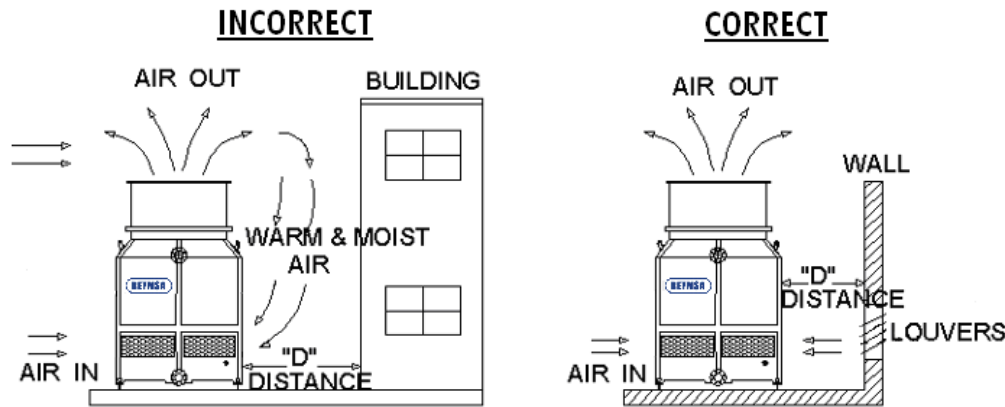

Figure A-2: Re-circulation
- Place the cooling tower in a position where it will have at least the recommended clearance on all sides for servicing and adequate air intake. It is advisable and preferred to have the top of the tower above the roofline of any adjacent buildings or other nearby obstructions. This will limit the possibilities of the air recirculation back into the towers air intake (See Figure A-2).